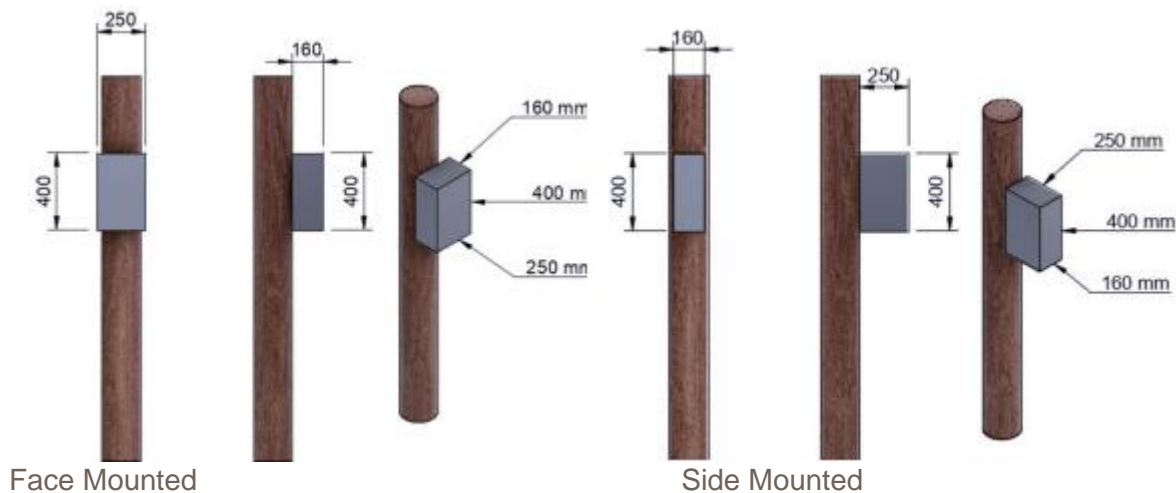

Figure 3 ASN Mounting
- Any single ASN must meet the maximum dimension requirements specified by KCOM in Figure 3 below